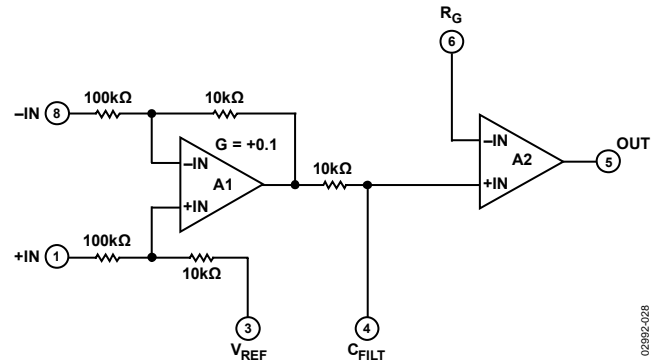
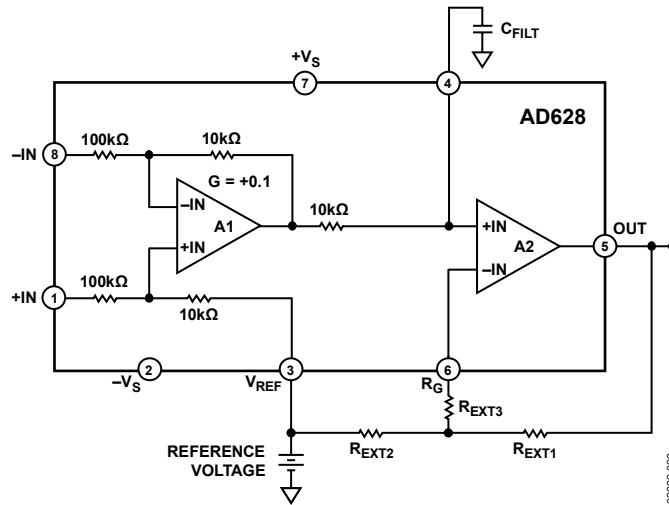

Figure 28. Simplified Schematic
Figure 29. Circuit Connections
The AD628 is a high common-mode voltage difference amplifier, combined with a user-configurable output amplifier (see Figure 28 and Figure 29). Differential mode voltages in excess of 120 V are accurately scaled by a precision 11:1 voltage divider at the input. A reference voltage input is available to the user at Pin 3 ( $V_{REF}$ ). The output common-mode voltage of the difference amplifier is the same as the voltage applied to the reference pin. If the uncommitted amplifier is configured for gain, connect Pin 3 to one end of the external gain resistor to establish the output common-mode voltage at Pin 5 (OUT).
The AD628 system gain is provided by an architecture consisting of two amplifiers (see Figure 29). The gain of the input stage is fixed at 0.1; the output buffer is user adjustable as  $G_{A2} = 1 + R_{EXT1}/R_{EXT2}$ . The system gain is then
**Table 5. Nearest Standard 1% Resistor Values for Various Gains (see Figure 29)**